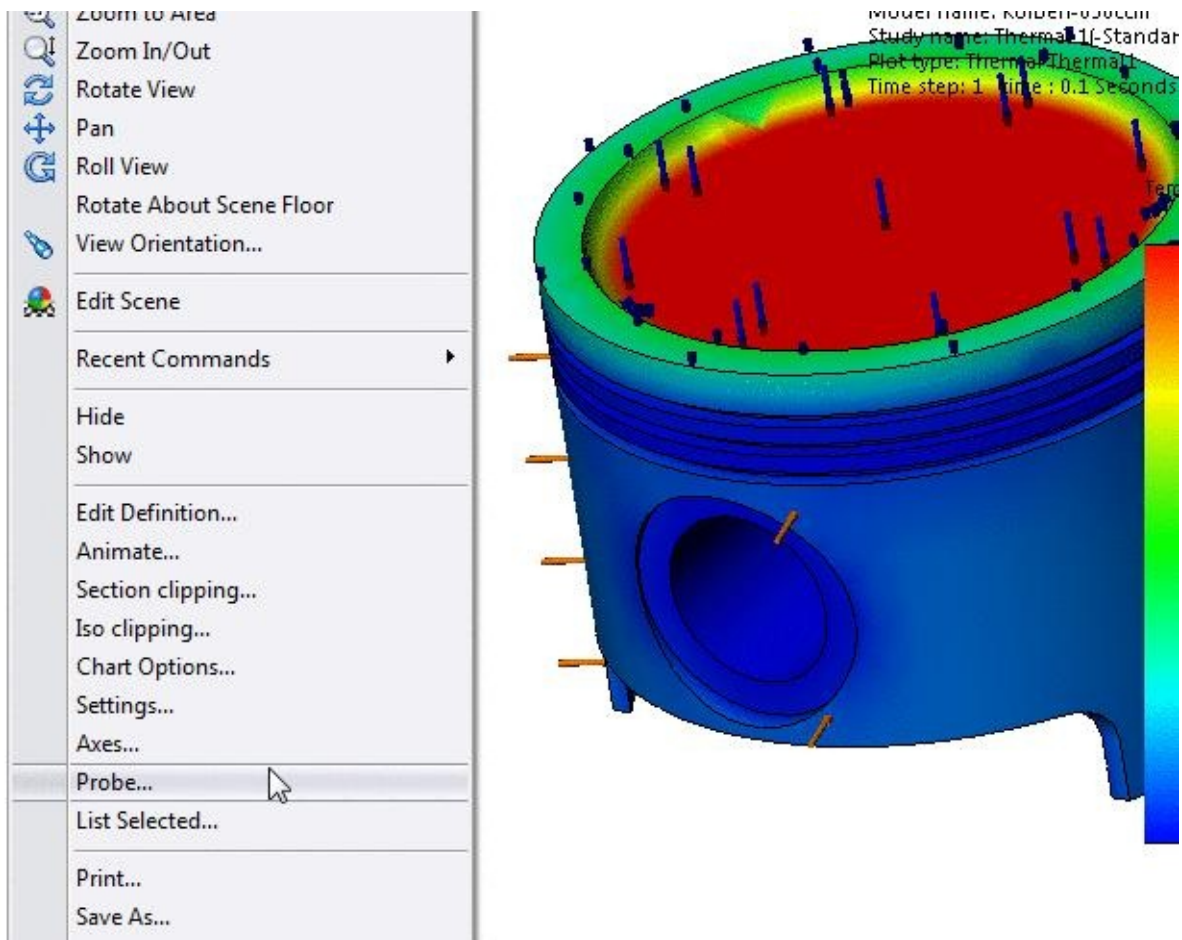

Figure-26. Probe button
- Select the **Probe** button from the shortcut menu; refer to Figure-26.